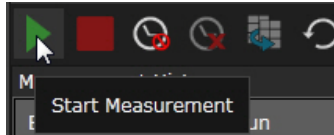

Figure 51 Start measurement
- 18 Click on the **Start Measurement** button to start the measurement as shown in Figure 51 on page -95.